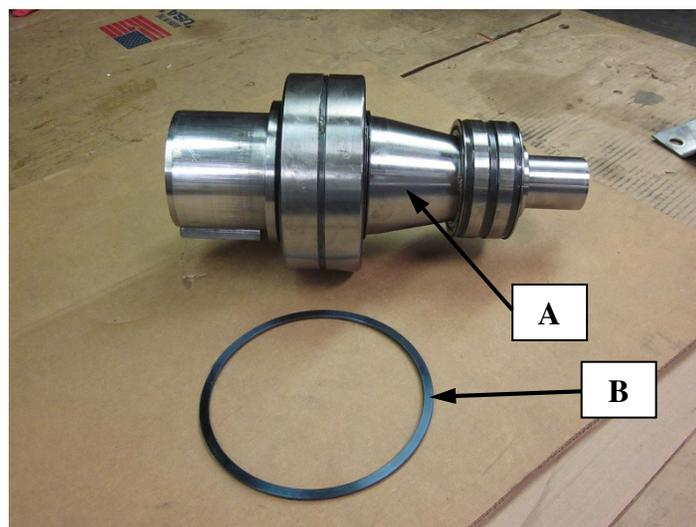

Figure 14
- The new shaft and bearing assembly will be shipped with only 2 items. The first item will be a new shaft with the proper bearing assemblies pre-assembled from the factory, "A." The second item will be a new retainer ring that will be installed behind the front bearing in a groove in the machine housing, "B." Refer to Figure 14.